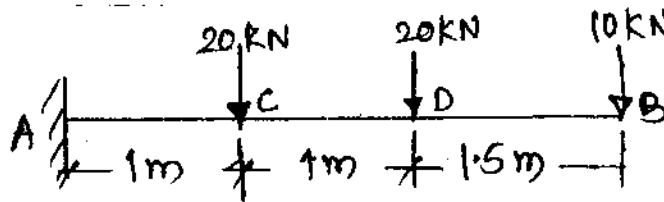

Fig. Q5(b)
- b. Draw SFD and BMD for beam shown in Fig. Q5(b). (14 Marks)